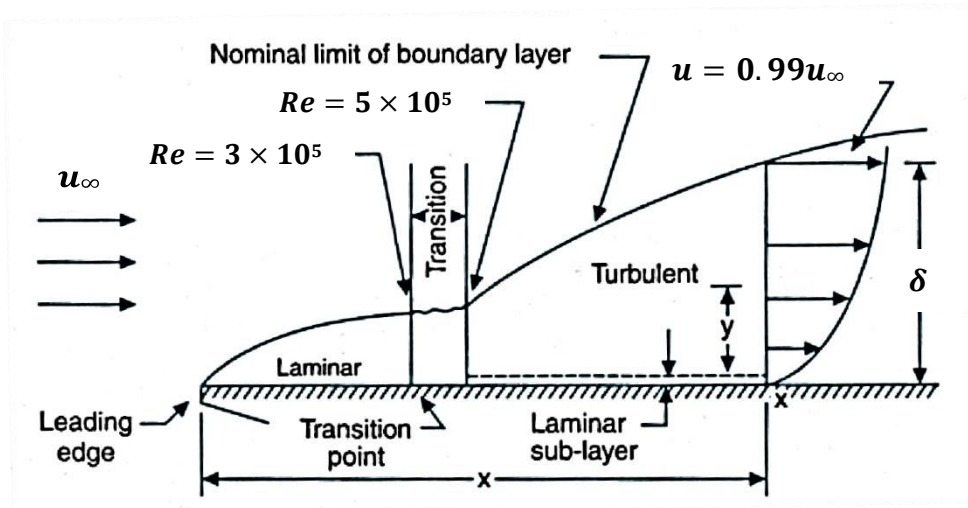

Fig. 7.3 Development of a boundary layer on a flat plate
- Consider the parallel flow of a fluid over a flat plate as shown in Fig. 7.3.